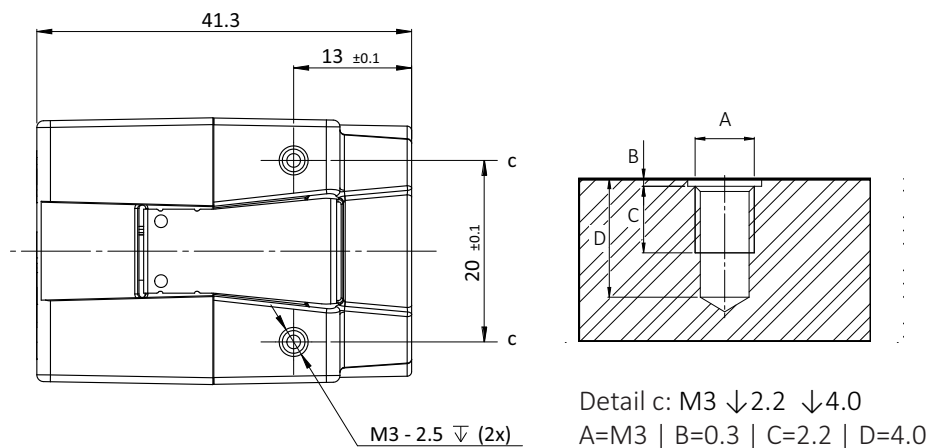

Figure 55: Mounting threads bottom and top (a)
- As shown in Figure 55, mount the camera to the base using suitable M3 screws for mounting thread a: At 0.51 Nm maximum torque for a thread engagement (C) of 2.2 mm between screws and mounting threads.